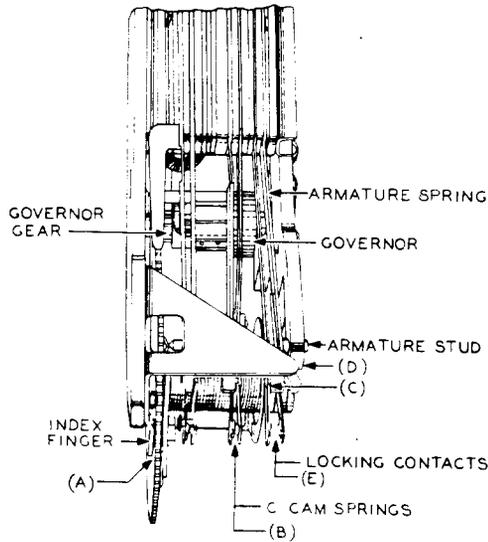

Fig. 12 - Engagement of Governor Gear and Pinion
2.13 Index Finger Position: Fig. 12(A) -
- \* (e) Armature Spring Tension: Fig. 12(D) - The tension of the armature spring shall be such that the force required to move the armature away from the armature adjusting screw shall be
(b) "C" Cam Contacts: Fig. 12(B) - With the armature electrically operated and the timer gear rotated so that the C spring finger rests on the flat of the "C" cam, the contact separation shall be
(c) Locking Contacts: Fig. 12(E) - With the armature unoperated, the contact separation shall be
2.22 Contact Follow: Fig. 12(C) - With the armature electrically operated and the timer gear normal, the clearance between the tang on the solid locking contact spring and its stop shall be